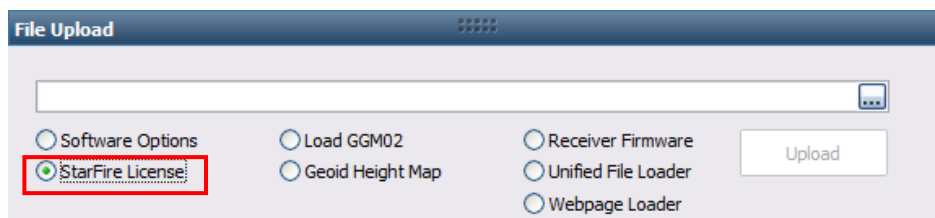

Figure 107: File Upload – StarFire License
2. Select *StarFire License* on the *File Upload* window (see Figure 107) and click .